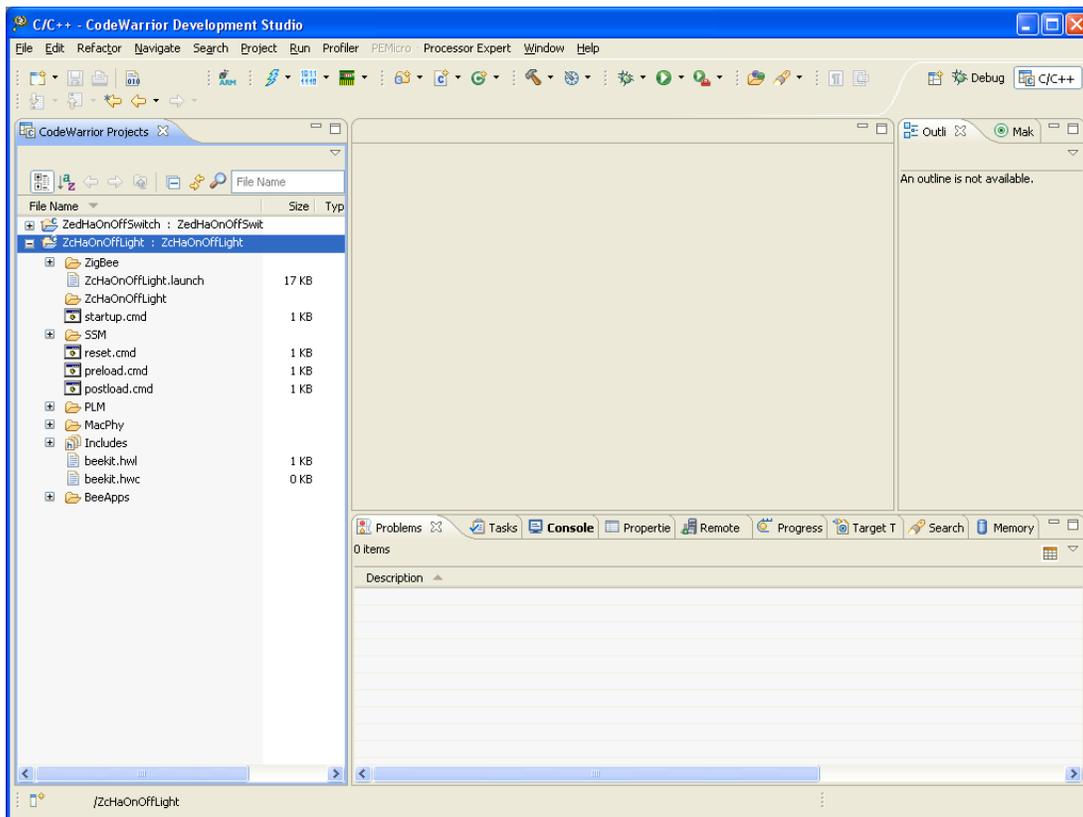

Figure 3-22. CodeWarrior Project Window
10. CodeWarrior loads the project files as shown in Figure 3-22.